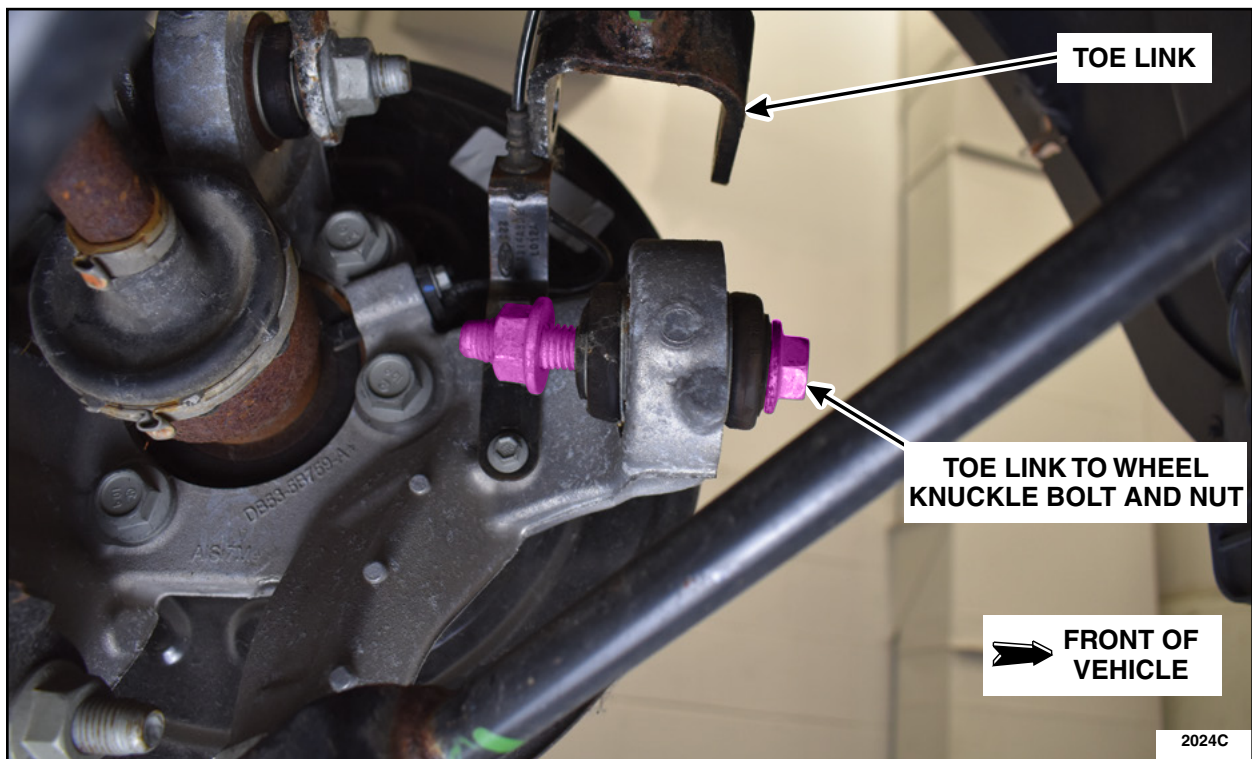

FIGURE 5
7. Install the toe link to knuckle bolt and nut. Tighten the nut while holding the bolt still with a wrench. See Figure 5.